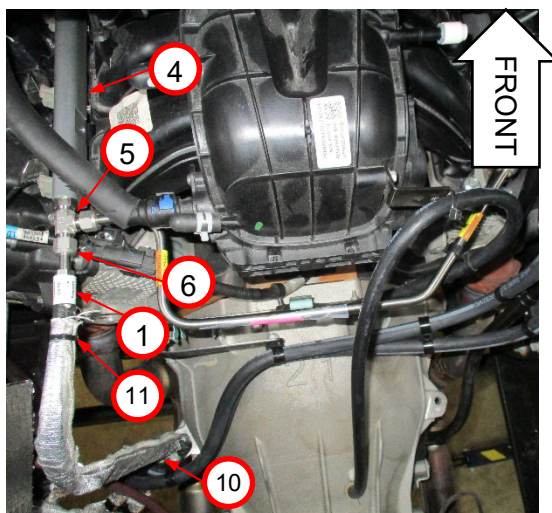

Figure 3.
1. Verify heat sleeve (10), p/n 61270000, is installed on LP flexible fuel hose and is secured with zip ties (11). *If not present, obtain replacement from Agility[®].*
2. Hand tighten LP flexible fuel hose (1) compression fitting nut (6) on driver side fuel rail t-fitting (5). *Figure 3*
3. Tighten compression fitting nut (6) at driver side fuel rail t-fitting (5) while using a wrench to hold t-fitting body. *Figure 3*
5. Tighten LP flexible fuel hose (1) compression fitting nut (7) at LP filter fitting (8) while using a wrench to hold fitting body. *Figure 3*